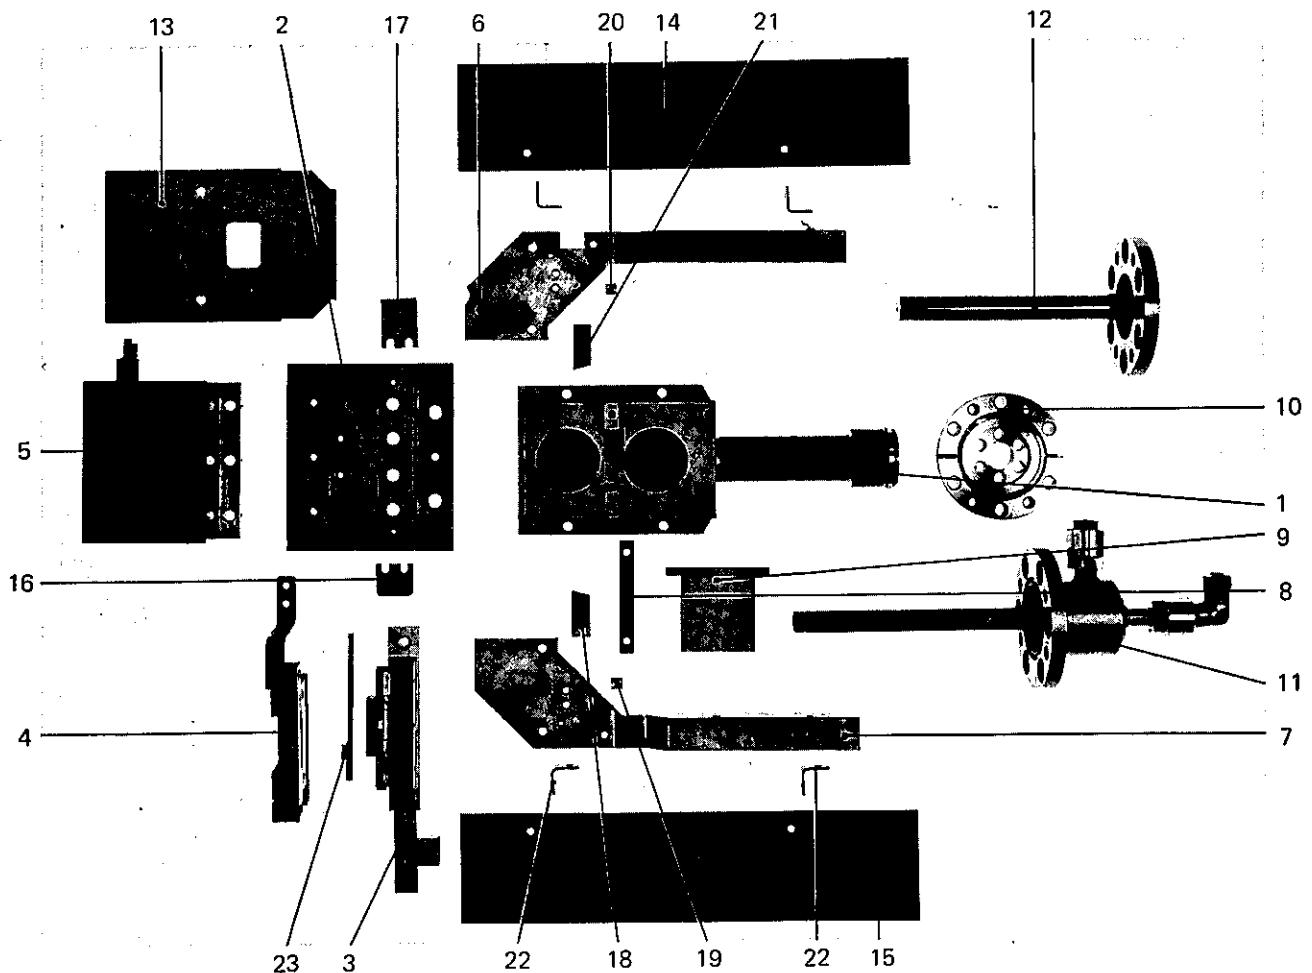
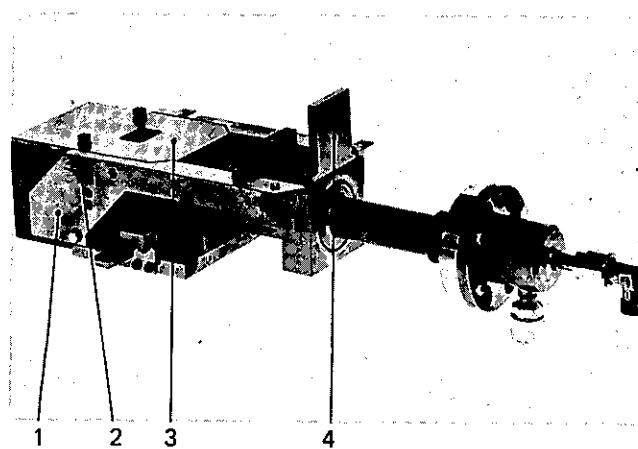

Fig. 4 Components of the ESQ 300 U
Fig. 7
- b. Fix the coil (Fig. 7, item 1) with 3 socket head screws M5 · 20 mm.
- c. Attach the pole shoes (Fig. 7, item 1) with the auxiliary pole shoes (Fig. 4, items 18 – 21) at both sides.
- f. Fit the Cu-screen (Fig. 7, item 3) over the cathode block and anode
- h. Screw the deflecting plate (Fig. 7, item 4) for secondary ions to the crucible block.
- a. Screw the source flange NW 35 CF (Fig. 4, item 10) to the lead-in of the UHV plant (ensure the right position of the threaded holes for the crucible block (Fig. 4, item 1)).
After connecting the source with the high voltage lead-in, the coil and the anode current input, and after making the return lead according to the drawing, attach the two Cr/Ni screens (Fig. 3, item 5) with two fastening angles (Fig. 7, item 2) each to the source.